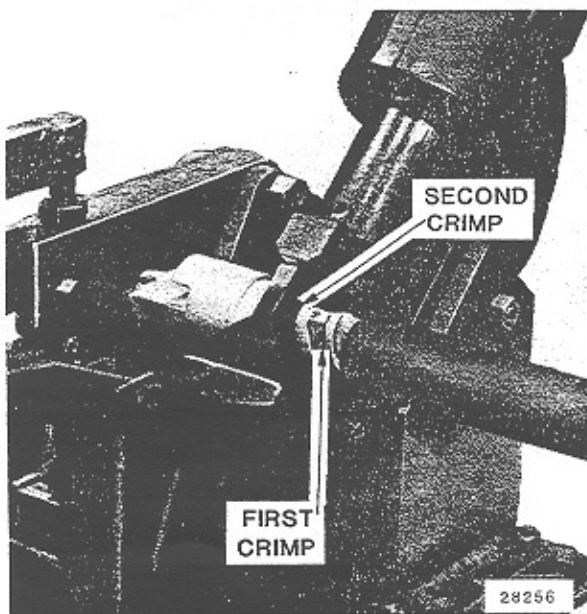

Fig. 41 - Crimping Clasp Connector
5. Operate crimping machine and make the first crimp in the clasp connector, Fig. 41.
6. Unlock holding block and position clasp connector against the other stop for the second crimp, Fig. 39. Operate crimping machine and crimp as shown in Fig. 41.